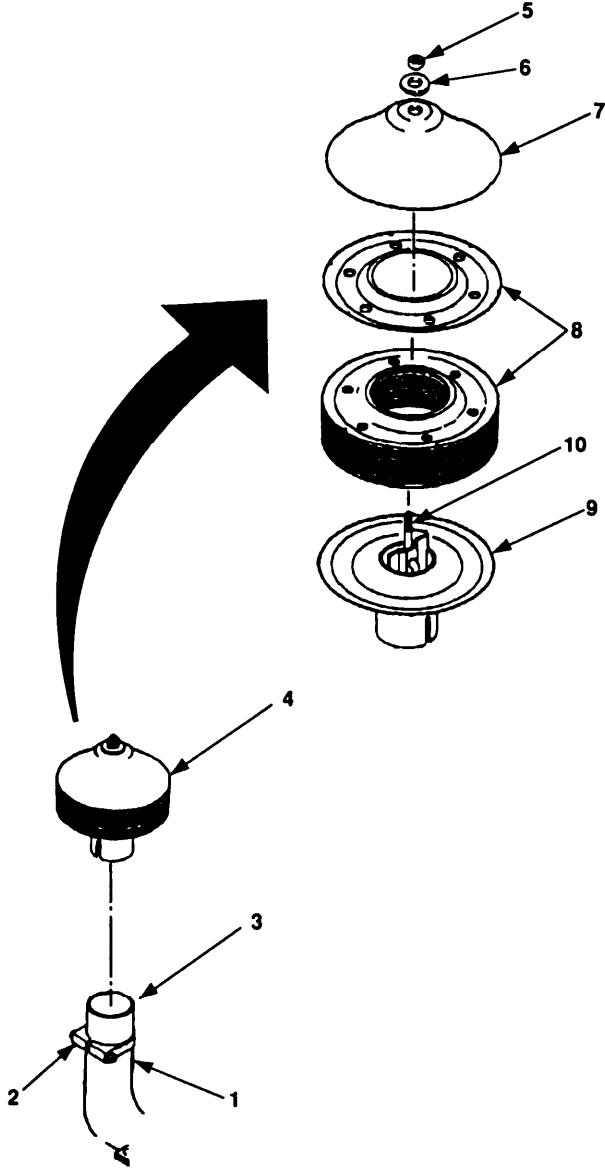

Figure 4-2. Spark Arrester Maintenance.
- a. Loosen nut (figure 4-2, 1) that secures clamp (2).
- b. Slide clamp (2) onto exhaust pipe (3).
- c. Remove spark arrestor (4).
- a. Remove nut (5), washer (6), and cap (7).
- b. Remove baffles (8) from base (9).
- c. Remove mounting stud (10) from base (9).
- e. Inspect baffles (8) for cracks, holes or other damage.
- f. Check base (9) for cracks and holes.
- g. Position mounting stud (10) in base (9).
- h. Align indentations of baffles (8) and position to base (9) as indicated in figure 4-2.
- i. Install cap (7), washer (6) and thread nut (5) on to mounting stud (10). Tighten nut.
- a. Place spark arrestor (4) on exhaust pipe (3).
- b. Position clamp (2) so that it tightens on both spark arrestor (4) and exhaust pipe (3).
- c. Tighten nuts (1).